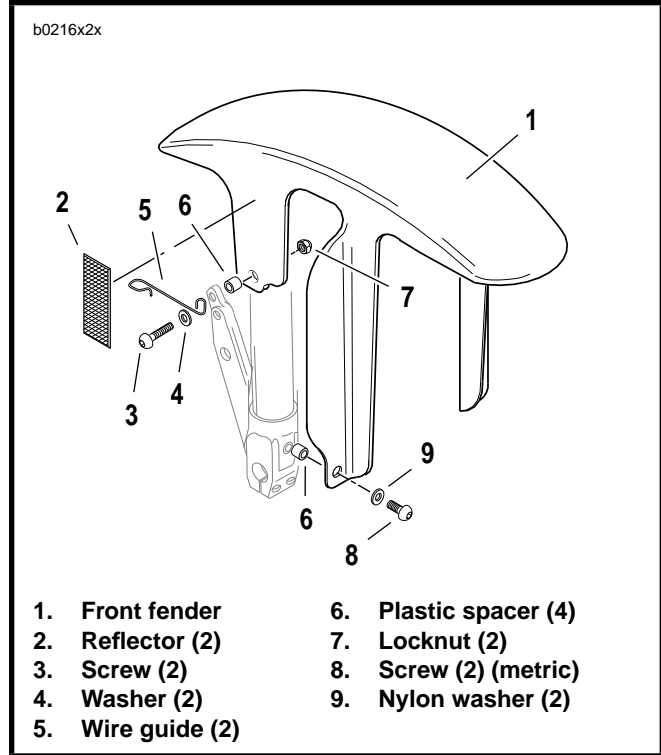

Figure 2-61. Front Fender
3. See Figure 2-61. Remove lower fender mounting screws (8) (metric), washers (9) and plastic spacers (6).
4. Remove upper fender mounting screws (3), washers (4), wire guides (5), plastic spacers (6) and locknuts (7).
5. Carefully remove fender (1) from between front forks.
- a. Tighten upper fender mounting screws (3) to 20-25 **in-lbs** (2.3-2.8 Nm).
- b. Tighten lower fender mounting screws (8) (metric) to 10-15 **in-lbs** (1.1-1.7 Nm).